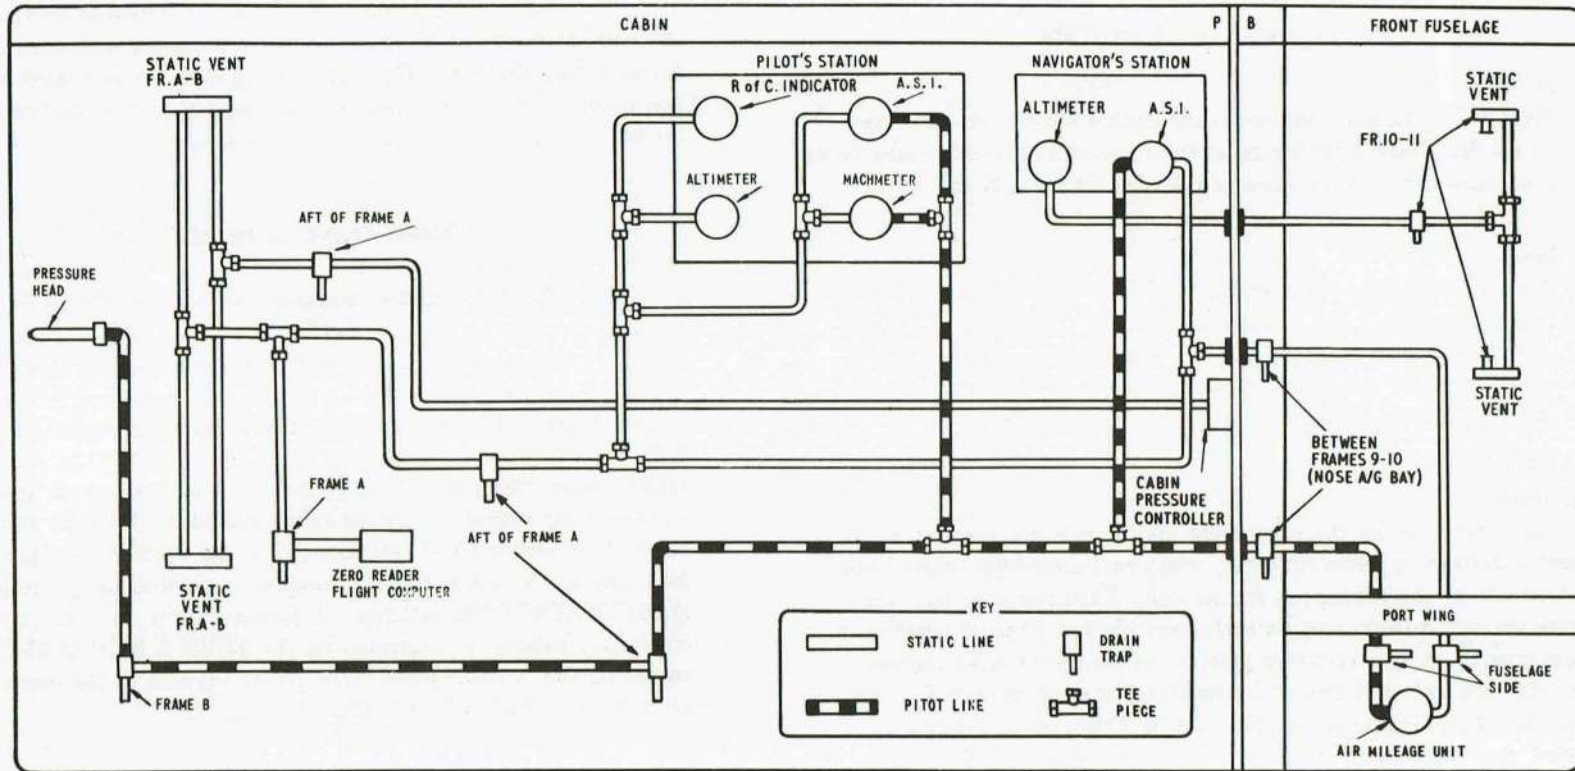

FIG. 2. PITOT AND STATIC SYSTEM
**DESCRIPTION****PITOT AND STATIC SYSTEM****General (fig.2)**
6. Moisture in the pipelines is collected by ten drain traps located at various points in the system as shown in fig.2. Each drain trap consists of either one of two types, a short length of tube having a closed end or a union and drain trap combined. Both types are connected into the pipelines by T-pieces.